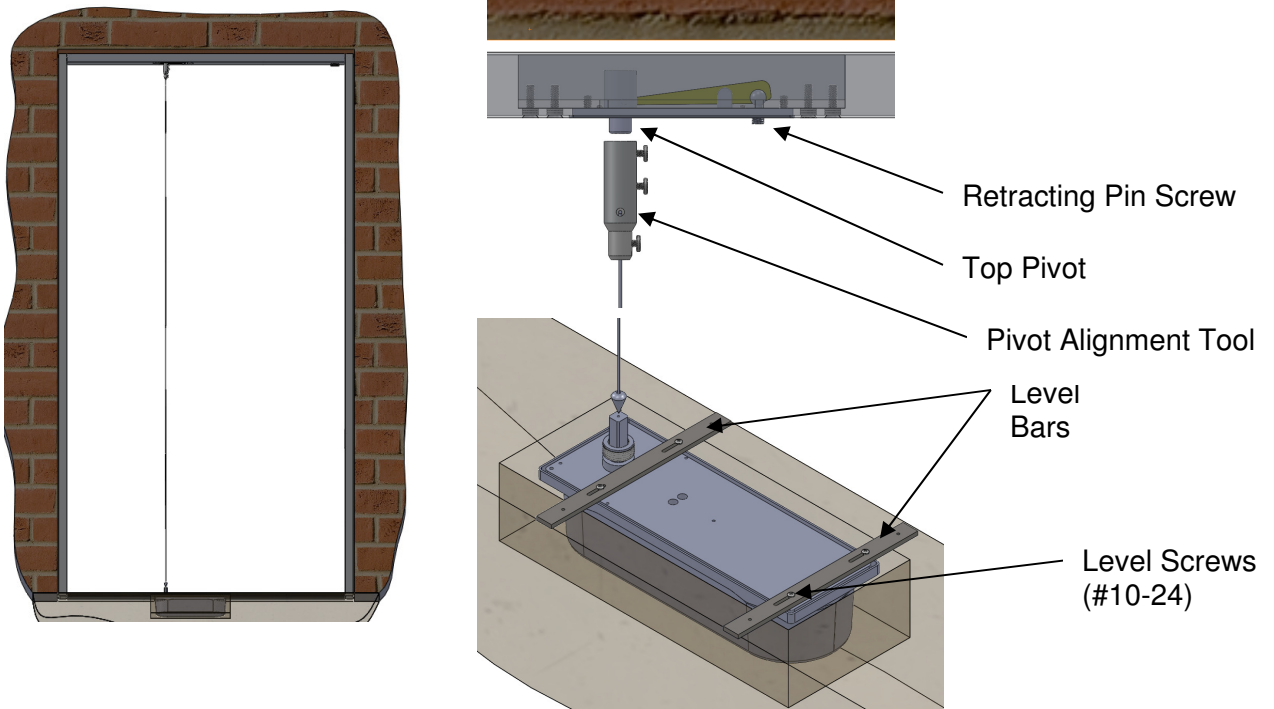

Figure 14:
4. Use a plumb line to center top pivot pin with center of closer spindle (Figure 14).